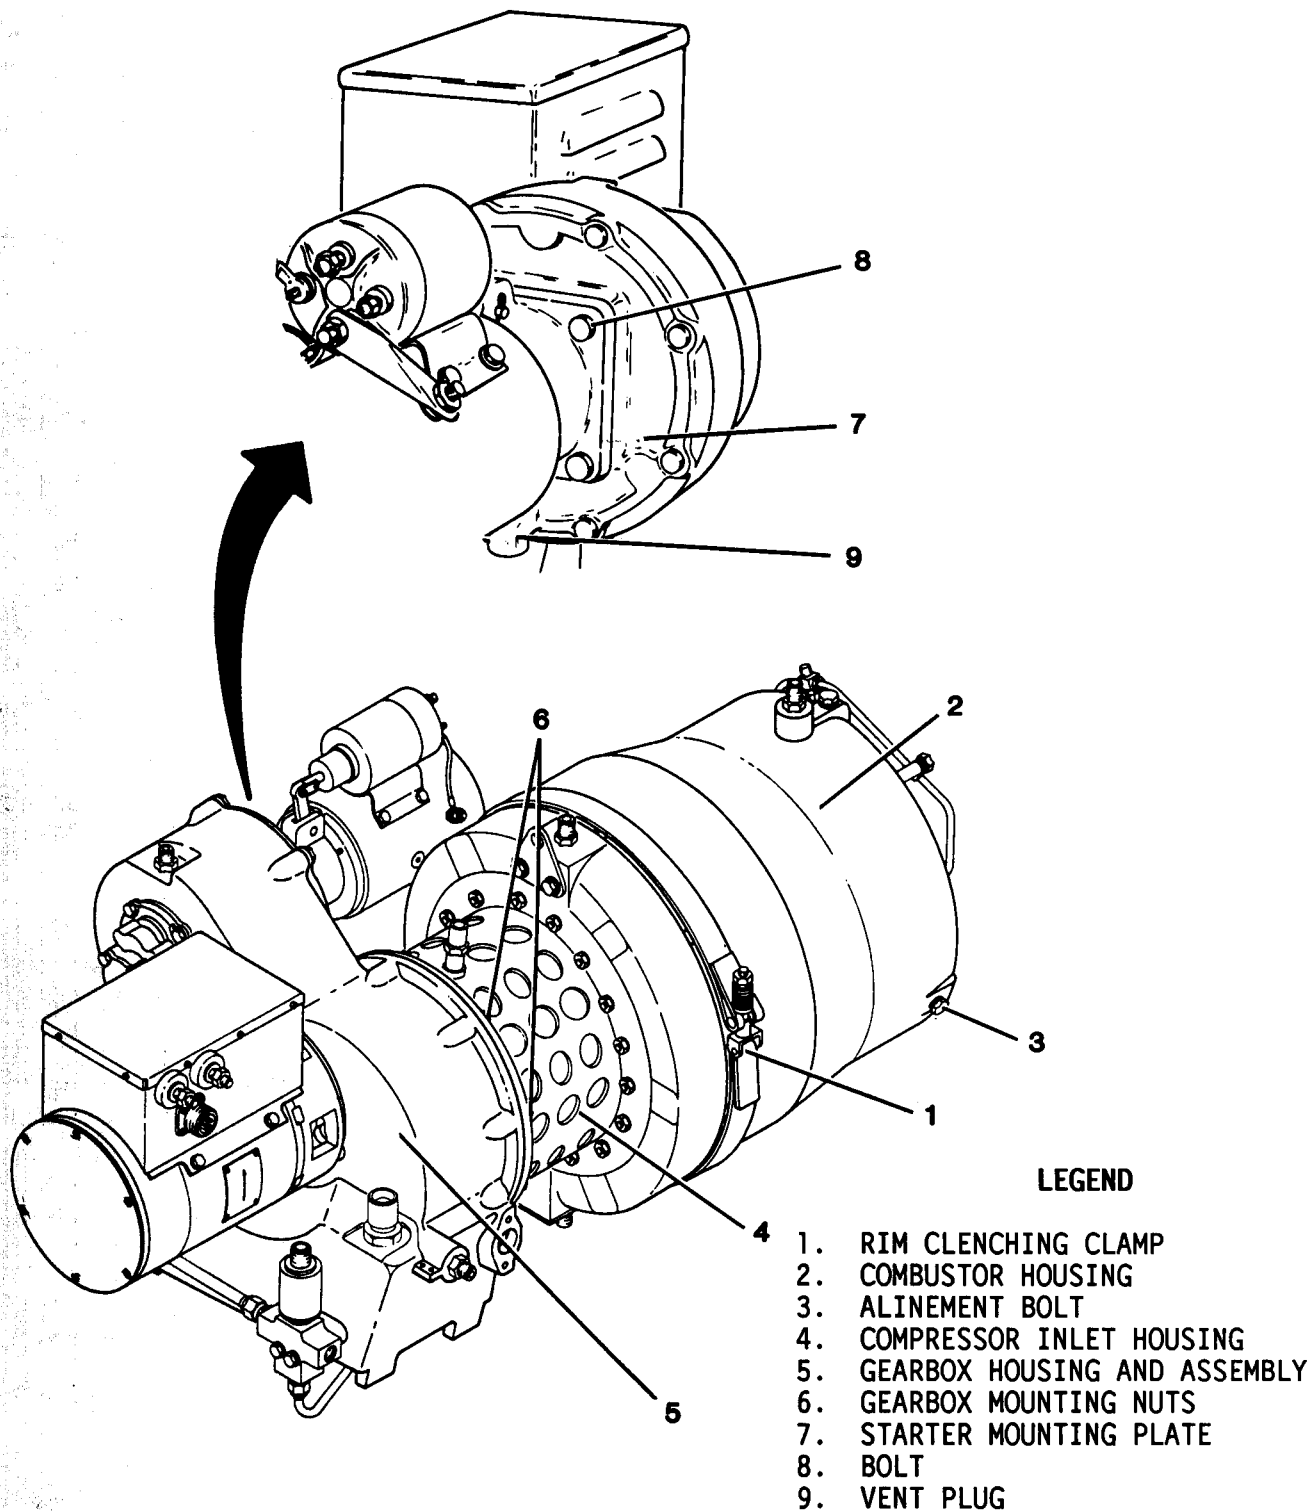

Figure 4-36. Turbine Maintenance Points
(4) Install lockwire as required.
(5) Install engine housing access cover and secure with turnlock fasteners.
(6) Connect battery cable plug connector to battery.
**4-57. RIM CLENCHING CLAMP.** Maintenance of the rim clenching (V-band) clamp (1, figure 4-36) is limited to inspection.
**4-58. COMBUSTOR HOUSING.** Maintenance of the combustor housing (2, figure 4-36) is limited to inspection.
b. Inspect for loose alignment bolts (3). Tighten as required. Bolts should be torqued to 30-40 inch pounds (3.4-4.5 Nm).
**4-59. COMPRESSOR INLET HOUSING.** Maintenance of the compressor inlet housing (4, figure 4-36) is limited to inspection.
**4-60. GEARBOX ASSEMBLY.** Maintenance of the gearbox assembly (5, figure 4-36) is limited to inspection.
#### 4-61. STARTER MOUNTING PLATE. Maintenance of the starter mounting plate (7, figure 4-36) is limited to inspection and service.
#### 4-62. GEARBOX HOUSING. Maintenance of the gearbox housing (5, figure 4-36) is limited to inspection.